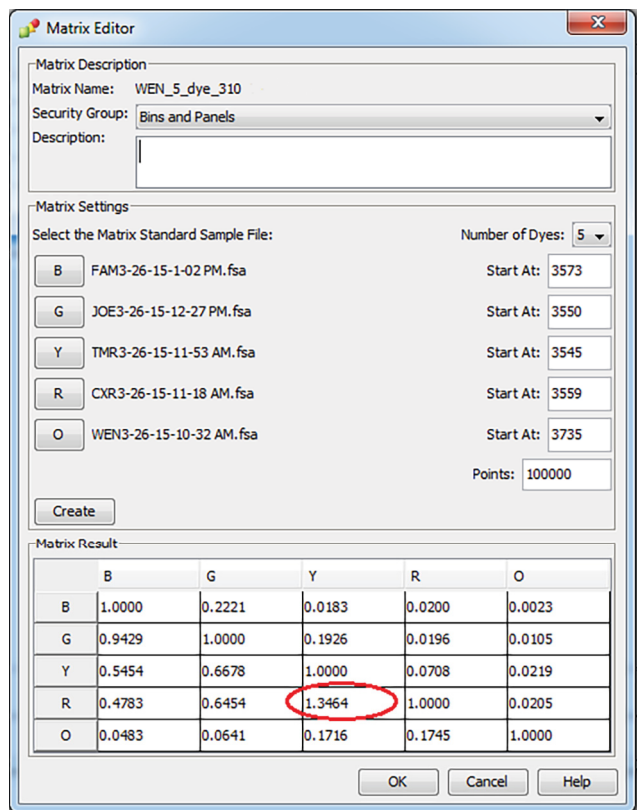

Figure 2. The Matrix Editor.
6. Define the new matrix in the Matrix Editor (Figure 2).
Note: The Matrix Name, “Start At” values and Matrix Result values shown in Figure 2 are instrument-specific and will change depending on your instrument and whether you are using POP-4[®] or POP-6[®] polymer.
- e. Click on the Create button. The Matrix Result should give a value of 1.000 when comparing a dye to itself. Typically, all other values will be less than 1.000 except for the value indicated in red in Figure 2. Select “OK”, and the matrix will be created in the Matrices tab of the GeneMapper[®] Manager. Select “Done”.
Note: The Matrix Name, “Start At” values and Matrix Result values shown in Figure 2 are instrument-specific and will change depending on your instrument and whether you are using POP-4® or POP-6® polymer.
- e. Click on the Create button. The Matrix Result should give a value of 1.000 when comparing a dye to itself. Typically, all other values will be less than 1.000 except for the value indicated in red in Figure 2.